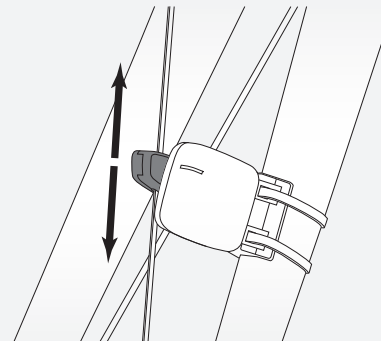
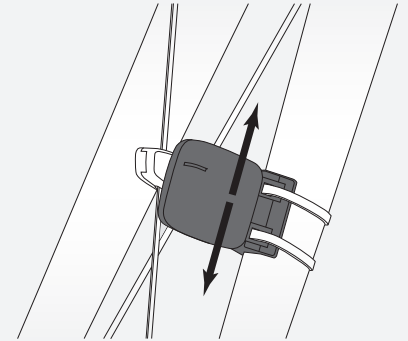

Figure 28. Alignment of Magnet.
Figure 31. Speed Sensor on Fork.
3. Slide the magnet up or down the spoke to align it with the sensor (Figure 28).
1. Position the sensor on the fork leg (Figure 31) or chainstay to achieve the correct alignment with the magnet (Figure 28). If needed, move the magnet.